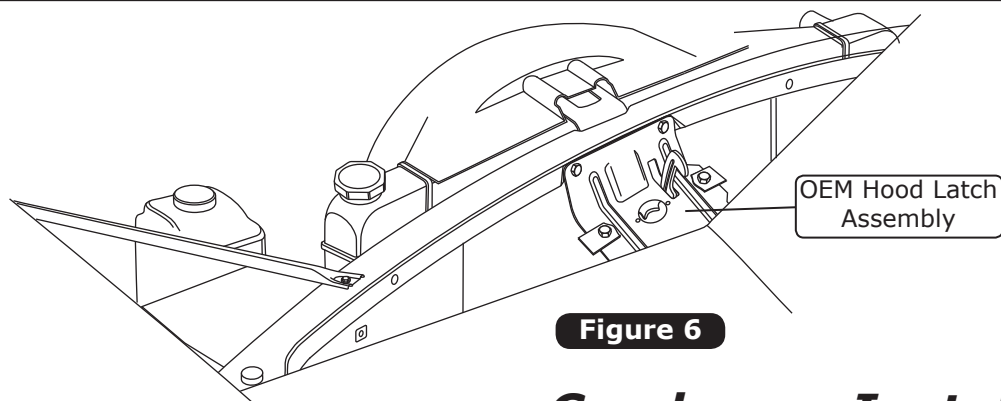

Figure 6
1. Remove the OEM hood latch assembly (See Figure 6, below).